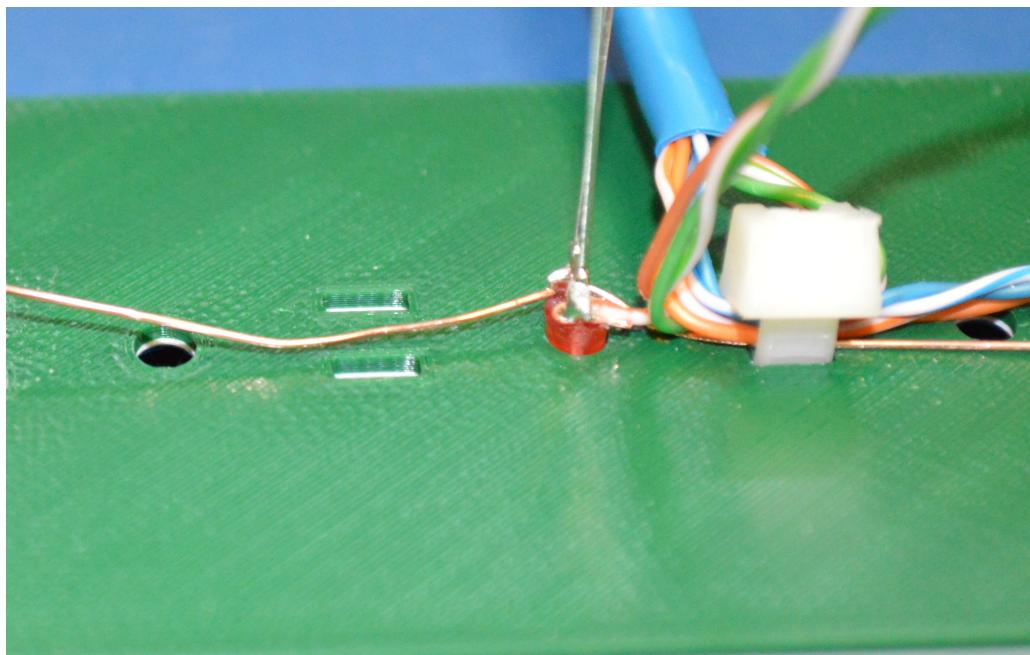

Figure 2.8: Solder the First LED
- Solder the first LED to one side of the cable. This one is the hardest as there is only a short length of wire to work with. See Figure 2.8.